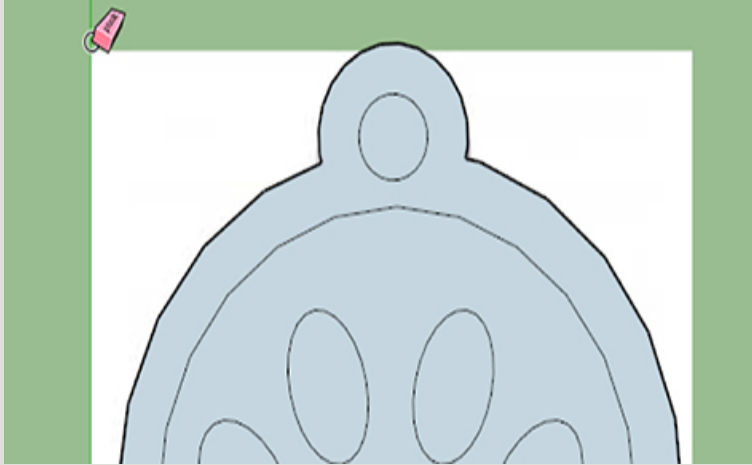

Figure 3-64 Erase the imported picture and group the tag.
6. Erase the imported picture by clicking the Eraser on it (Figure 3-64). If you think you'll need it later, hide it instead by selecting it, right-clicking on its perimeter, and choosing Hide. Group the tag by dragging a window around it to select it, right-clicking, and choosing Group.